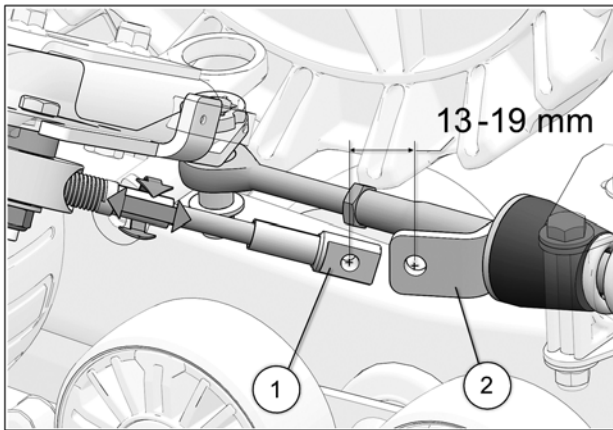

Fig. 27
16. Turn the vehicle's steering wheel to its maximum point of travel on the left. While maintaining pressure on the steering wheel, turn threaded rod to adjust length of cable. See Fig. 27
17. Position cable end hole (1) 13-19 mm short of support plate mounting hole (2). See Fig. 27